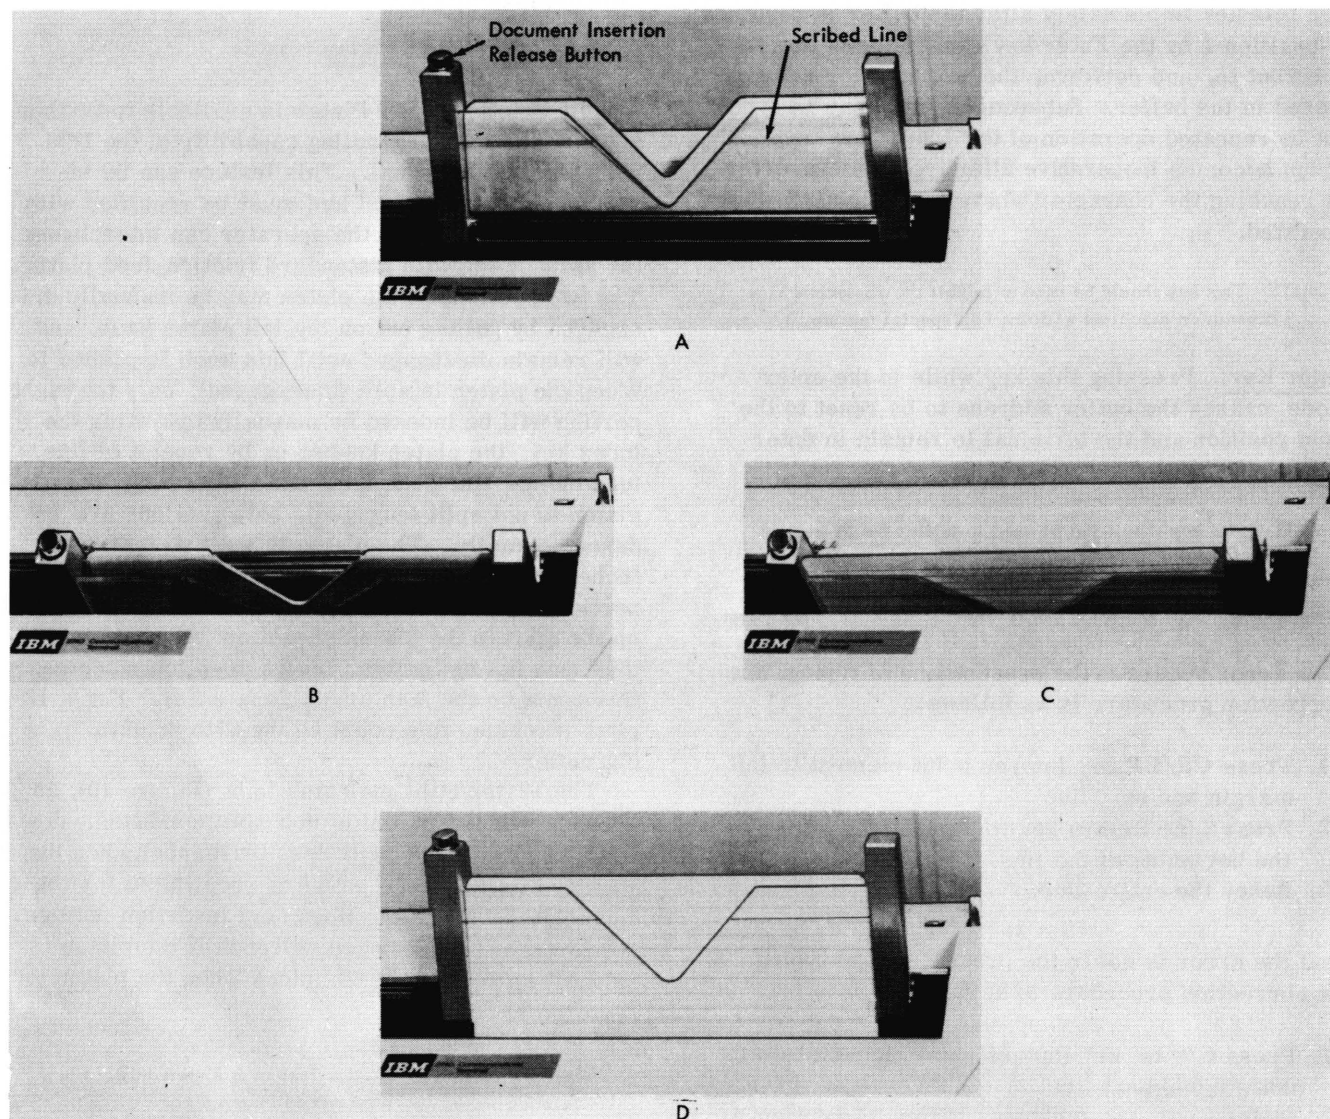

Figure 28. Document Insertion Feature
The Document Insertion feature (Figure 28) enables the operator to easily insert and position individual forms to receive all or a portion of the printed output. A typical application might be printing on a continuous-form journal and simultaneously posting on ledger cards that are manually inserted by the operator. If the terminal is addressed and the Document Insertion device is tilted forward, the terminal responds with an @ (N) response.
The Document Insertion feature provides a means of inserting ledger cards in front of the typewriter platen without using the platen knobs (Figure 28). To insert the ledger card, push down on the Release button (Figure 28, Part A) and simultaneously pull the post toward the front of the terminal (Part B). When the device is tilted forward, the feed rolls are open and the card can be inserted (Part C). A pressure arm pushes the card against the left card guide while the feed rolls are open. If the terminal is addressed while the device is in its forward position, an @ (N) response is sent to the CPU.